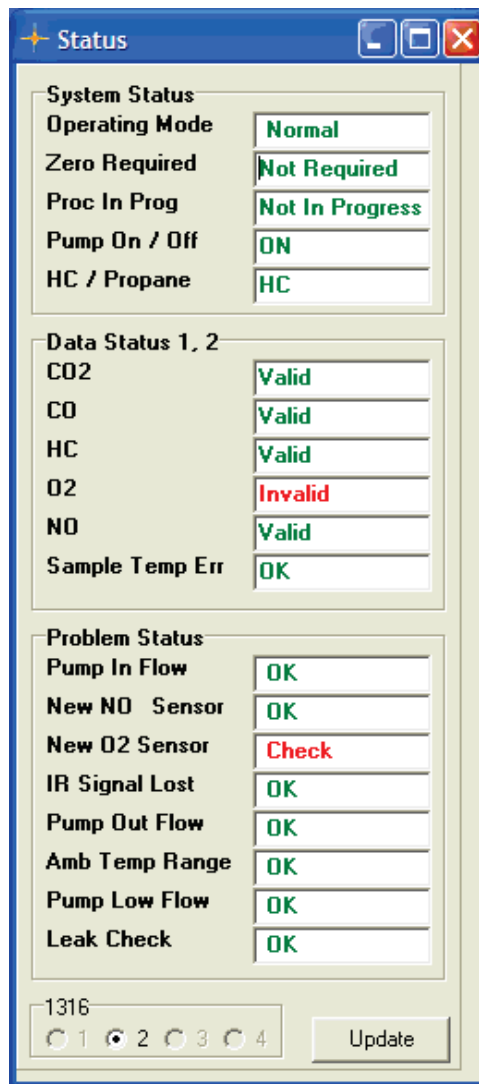

Figure 4.9 . The Status Window displaying “ New O₂ Sensor Required”.
7. If the O₂ sensor's output is lower than a flash-memory-resident minimum value, the New O₂ Sensor Required warning is shown see figure 4.9.